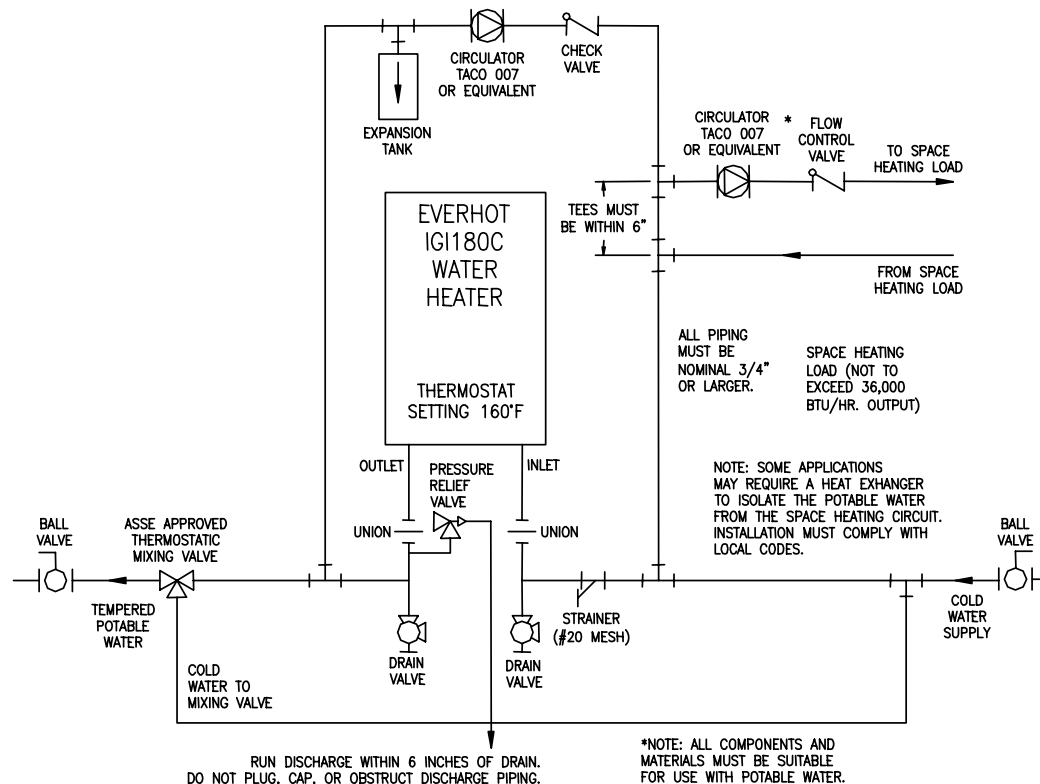

Figure 6
5. In order to assure adequate flow through the water heater, follow the recommended piping diagram and circulator specifications (see Figure 6).